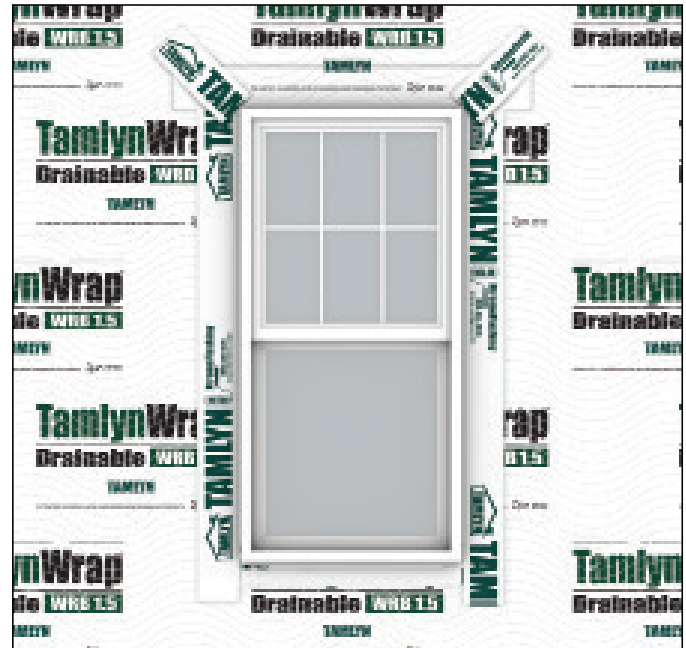

FIG 11:
- Tape corners using **XtremeFlashing**™ as shown in **(FIG 11)**.